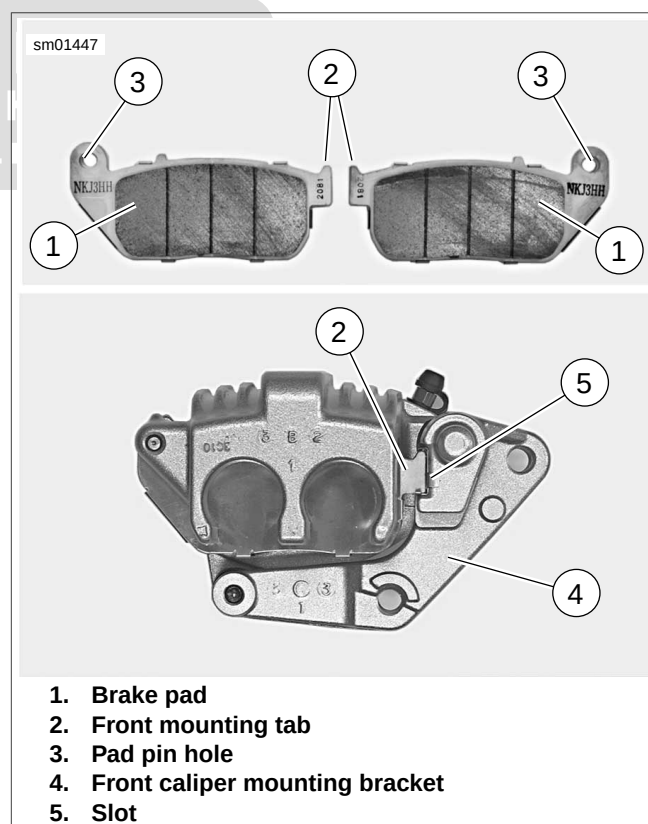

Figure 2-91. Front Brake Pads
1. See Figure 2-91. Insert one set of brake pads (1) into caliper with friction material on pad facing opening for brake disc. Curved portion of pad fits into recessed area of caliper. Make sure brake pad front mounting tab (2) fits into slot (5) in caliper mounting bracket (4).
- See Figure 2-91. Pad front mounting tabs (2) must be fully seated in mounting bracket slot (5).